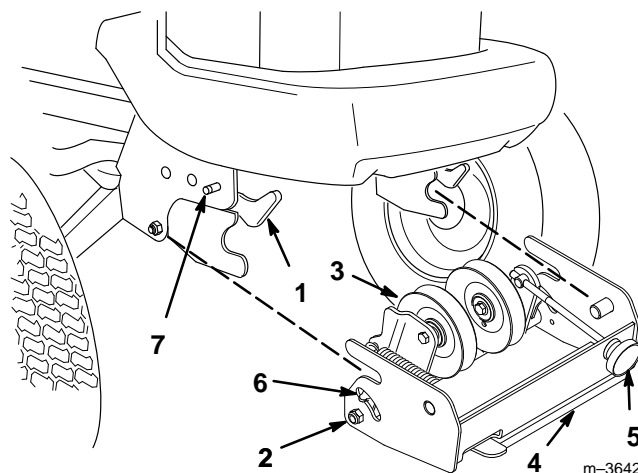

Figure 5
2. Make sure the latches on the tractor's front Attach-A-Matic™ are open (Fig. 5). Then slide the pulley box into the Attach-A-Matic™ latches and seat it. Close the latches.